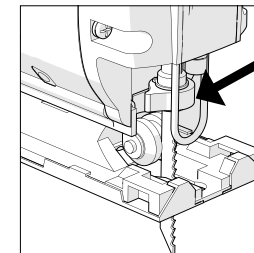

Fig 1
1. INSTALLING OR REMOVING A BLADE (Fig. 1)
- Rotate the chuck locking collar forward and slide the jigsaw blade fully 'home' into the chuck. Ensure that the 'T' bar of the bayonet fitting is fully engaged within the chuck. **(Fig. 1)**